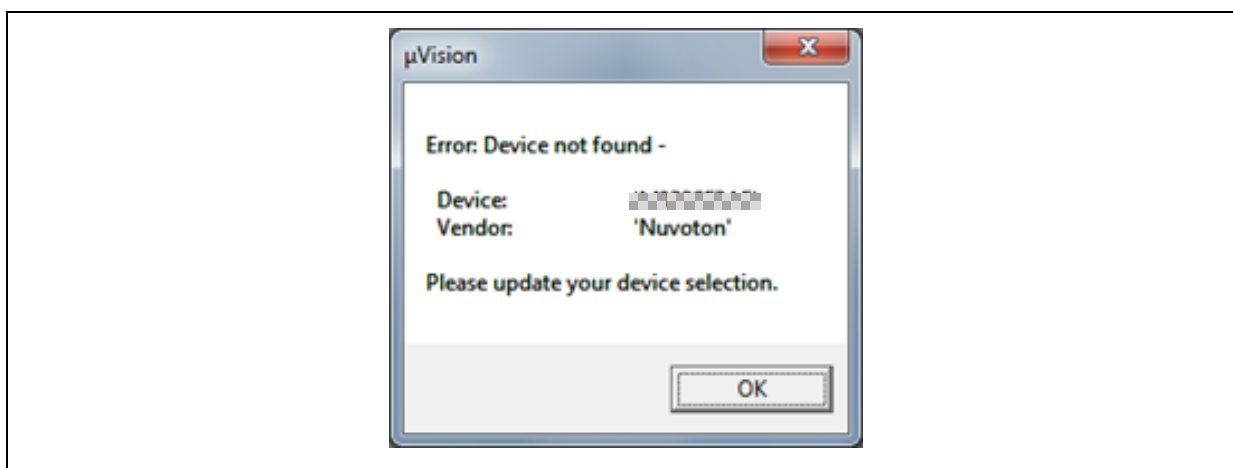
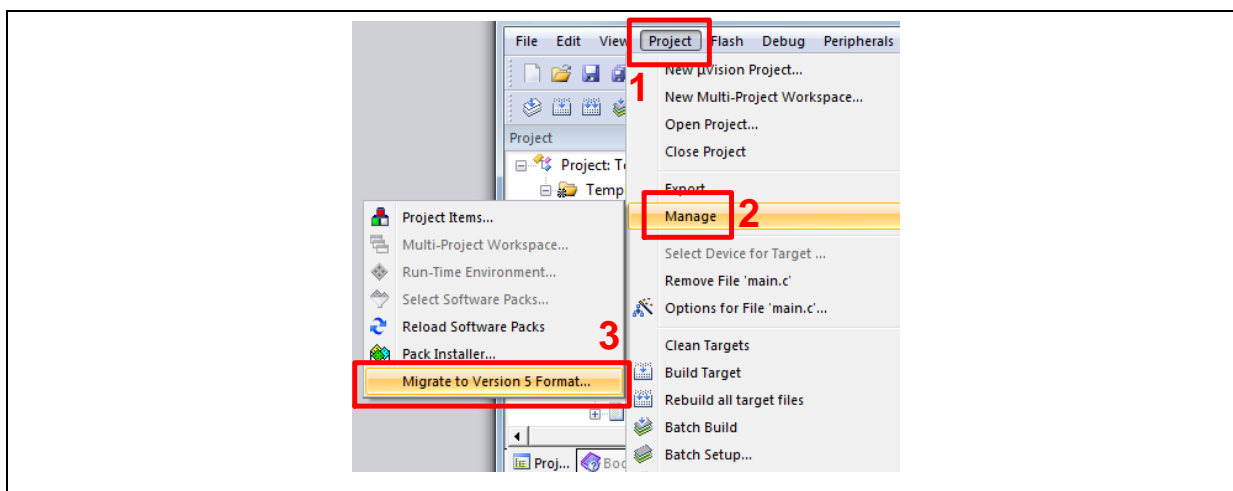

Figure 4-8 Warning Message of “Device not found”
Figure 4-9 Project File Migrate to Version 5 Format
**Note:** If Figure 4-8 warning message jumps out, please migrate to version 5 formats as shown in Figure 4-9. The “.uvproj” filename extension will change to “.uvprojx”.